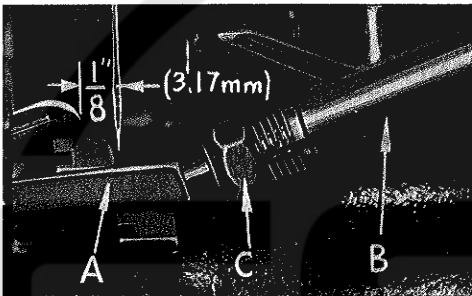
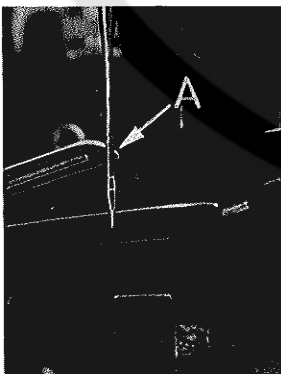

Fig. 6
Fig. 8
At this point, insert lower looper (A, Fig. 6) into bar (B). With lower looper at left end of its stroke, set looper point $1/8$ inch (3.17 mm) from center of needle (Fig. 6), using looper gauge No. 21225- $1/8$, on Styles 39500 QS, QT, RT, TJ, TM & TT. On Styles 39500 RD, RL and TK, with lower looper at left end of its stroke, set looper point $1/16$ inch (1.59 mm) to the left of center line of left needle, using looper gauge No. 21225- $1/16$. Do not have lower looper deflecting needle or needles. Tighten nut (C). Now assemble differential (front) feed dog.
Now finish lower looper adjustment. As lower looper moves to the right, its point should be set into the needle scarf (A, Fig. 8) until the needle springs forward from rear needle guard surface another .002-.004 inch (.051-.102 mm). Tighten nut (C, Fig. 6) securely.